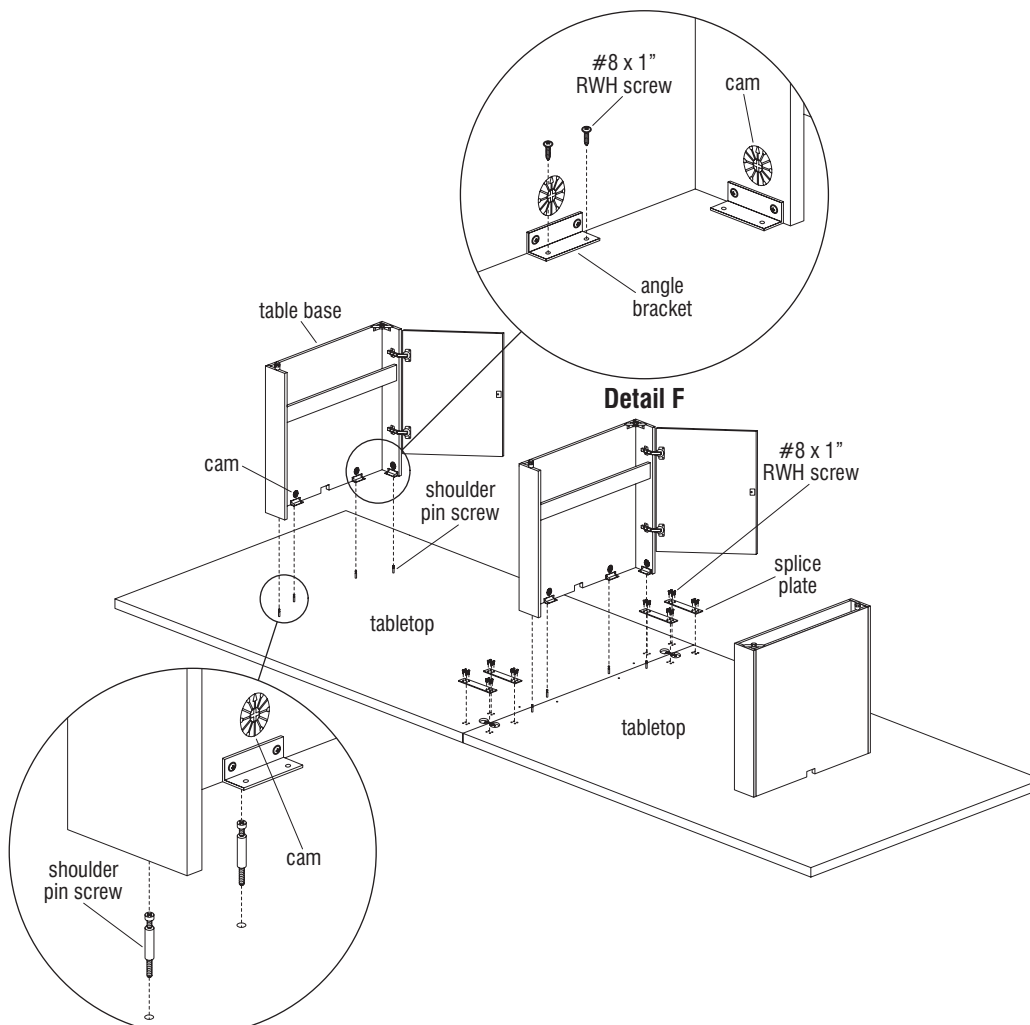

Figure 4 **Detail E**
4. With table halves joined together tightly and precisely, align the four splice plates over the pre-drilled holes at each side of the joint fasteners as illustrated, then tightly secure each splice plate using eight #8 x 1" RWH screws, four per splice plate side as illustrated (Figure 4).
5. At each base installation location, insert and twist four shoulder pin screws into the 5mm diameter pre-drilled holes in the underside of the joined tabletops as illustrated (Figure 4).
6. Carefully turn each table base upside down onto the tabletop underside one at a time, inserting the shoulder pin screws of the worksurface into the corresponding camlock holes at the top edge of the table bases. Open the table base door and locate the camlocks inside the base, then twist each camlock clockwise to the 2 O'Clock position to lock (Figure 4 & Detail G).
7. Once table bases are camlocked to the joined tabletops, identify the angle brackets inside the base, then twist in and tighten two #8 x 1" RWH screws per bracket, to further secure the base to the underside of the worksurface as illustrated. After all 8 screws per base are tight, close the table base door (Figure 4 & Detail F).